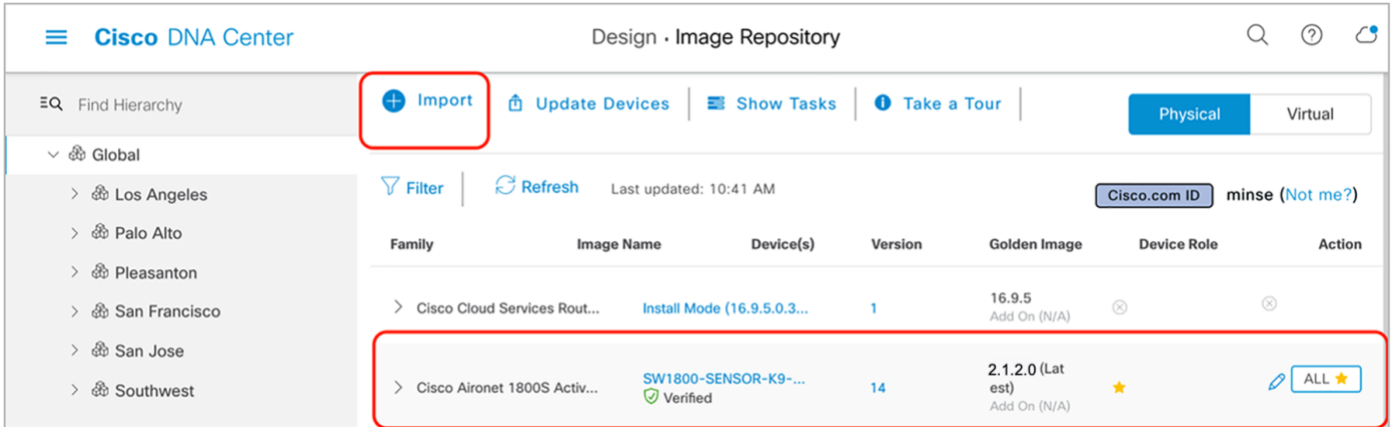

Figure 49.
- a. Option 1 – Cisco.com image import: Before upgrading the image, mark the new image within the Image Repository page (viewed by clicking Design > Image Repository within the hamburger menu) as a golden image so that it will be used as the new sensor software. You mark the new sensor software as the golden image by clicking the star icon next to the desired image in the list (**Figure 49.**).
- b. Option 2 – manual import: Alternatively, you can manually import the sensor software into Cisco DNA Center from your local browser. Import the sensor software from the Image Repository tool by clicking Design > Image Repository within the hamburger menu and then clicking Import (**Figure 49.**).